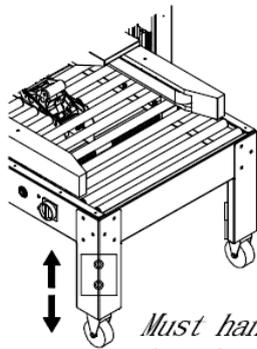

Figure 2-1
1. Leg adjustment: This machine is equipped with the adjustable legs; the legs can be adjusted to obtain different height from min. 570mm to max. 770m, it is to be in accordance with the customer's conveyor height. Please refer to Figure2-1.